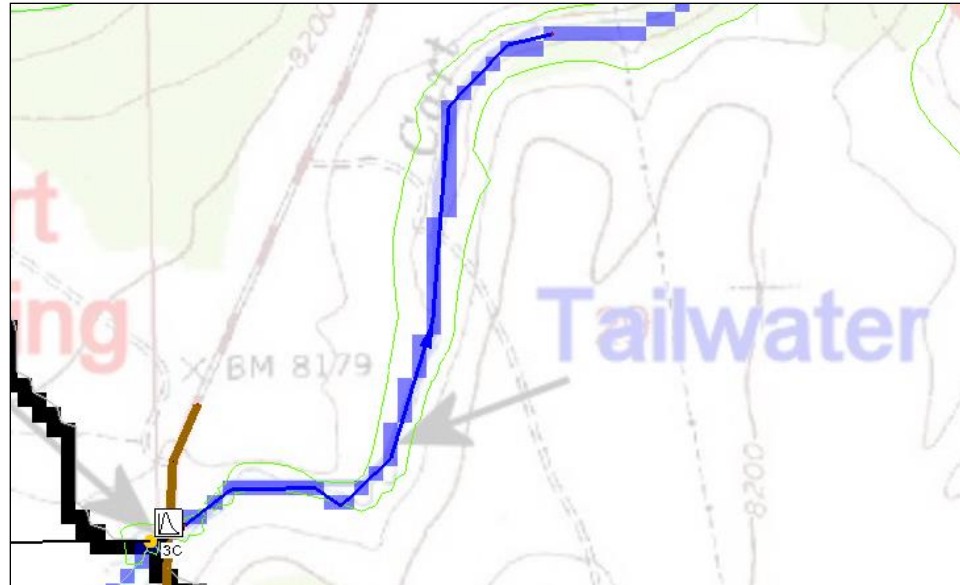

Figure 5 Hydrograph at outlet 3C, and tailwater centerline arc
A hydrograph should appear at outlet 3C (lower left, Figure 5).
5. Using the GIS image as a guide, create an arc starting at the downstream culvert outlet point and proceeding downstream (Figure 5). Try to follow the flow accumulation cells on the DEM while drawing the tailwater arc. Double-click to end the arc.